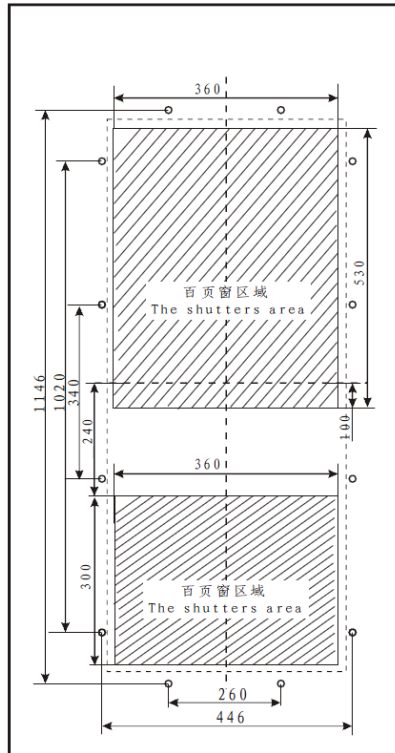

figure 2
- 3.1.2. select the right wall and According to the installation method（side, door, half embedded）in the panel of the installation out the cut line accordingly, as in figure（figure2）.
选择正确的安装固定面，根据相应的安装方式（侧装、门装、半嵌入安装）在此面板上画出相应切开线，如图（figure2）